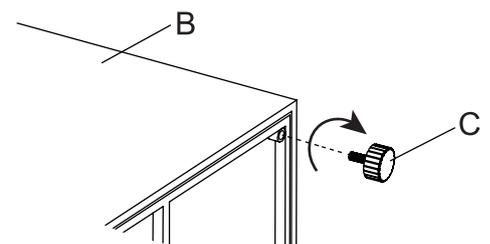

Figure 1
1. With the help of another person, place the fire pit body (B) on a flat, non-abrasive surface to prevent scratches.
2. Check the four corners at the bottom of the fire pit. Align each foot glider (C) with the corresponding screw hole and fasten securely (see Figure 1).